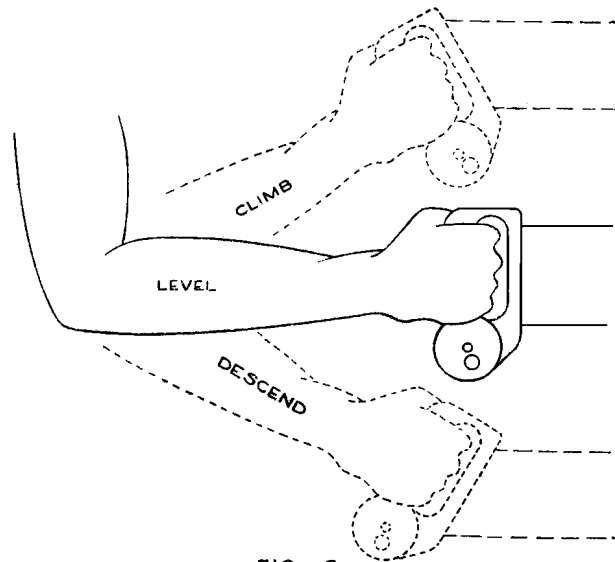

FIG. 5
1. Pull out about 30 feet of line and adjust the lines so they are even. Hook them to the airplane control wires. The lines must be connected to the plane so that raising the arm, Figure 5, will raise the elevator, and lowering the arm will lower the elevator.
4. As soon as the plane has run a few feet after release, the pilot will slowly raise his forearm and the plane will take to the air. Many beginners on their first attempt to fly, get "buck fever" and fail to use down control to level off after the plane leaves the ground. This results in a flight which goes right overhead then a power dive to the ground. Result: a demolished plane. Do not fly until you know you can overcome this tendency. Raise the arm to make it climb. Lower the arm to make it descend. The beginner should control from the elbow, Figure 5.